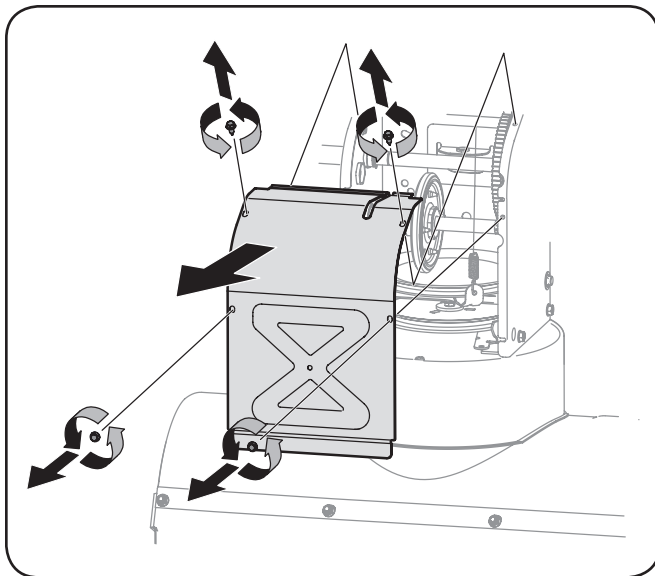

Figure 7-4
6. Remove the frame cover from the underside of the snow thrower by removing the self-tapping screws which secure it. See Figure 7-4.
3. Remove the frame cover from the underside of the snow thrower by removing four self-tapping screws which secure it. See Figure 7-4.